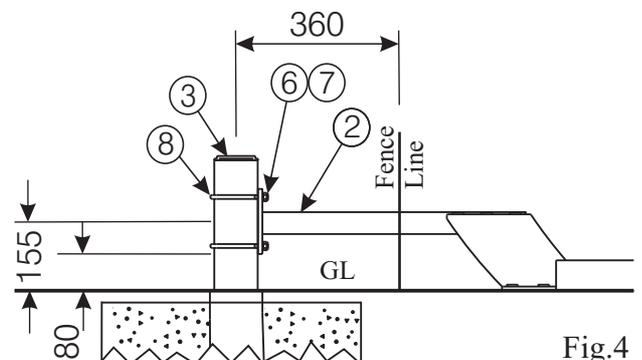

Fig.4
- 4 Bolt Arms to Support Post** - Stand the Shelter up and position the Arms through the previously cut holes in the Fence and attach to the Fence Post as shown in Fig 4.